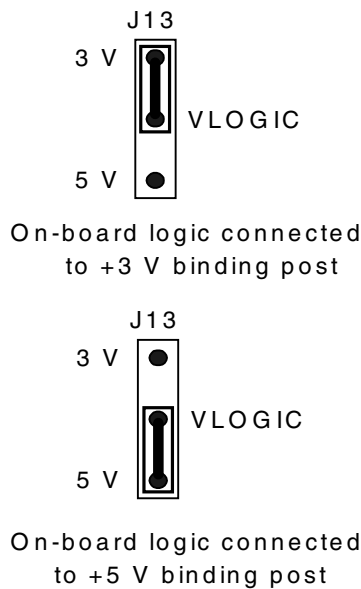

Figure 2. On-board Logic Power Selection
- Jumper J13 shown in Figure 2 allows all the external logic on the evaluation board to be connected to either +3 V or +5 V binding post.